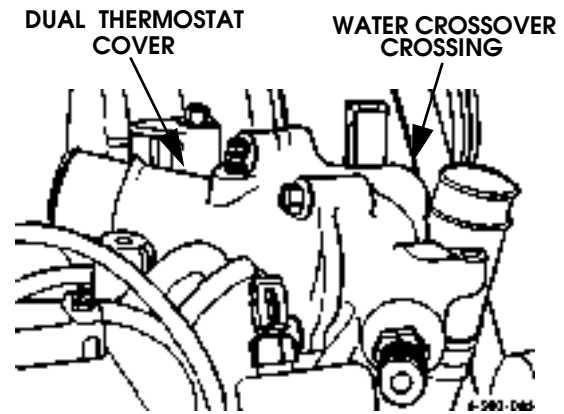

Figure 2-73: Water Crossover Location
1. Loosen clamp and disconnect bypass hose at water crossover (Figures 2-73 and 2-74).